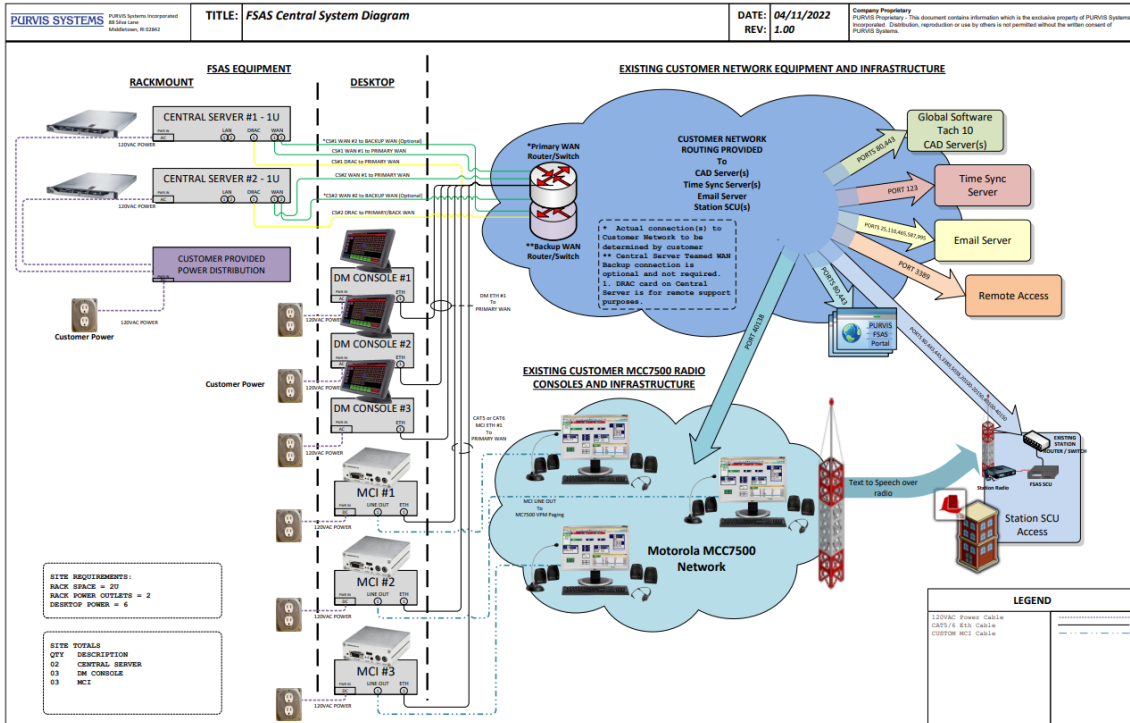

Figure 3 - FSAS Central Server with Motorola MCC7500 Network
- **Figure 3:** FSAS Central Server with Motorola MCC7500 Network